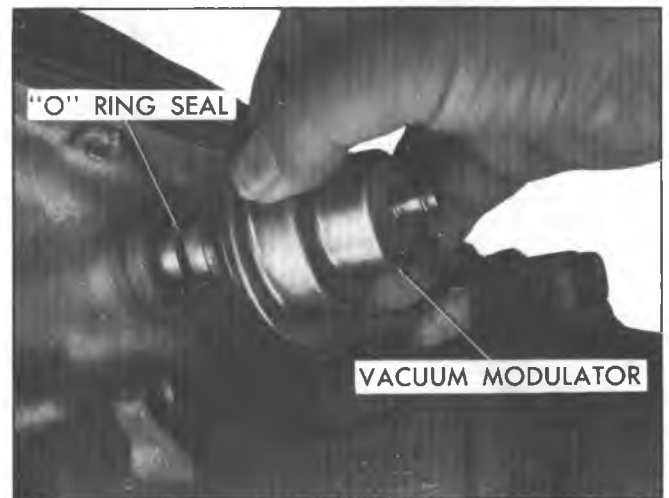

Fig. 1A—Removing Vacuum modulator Assembly
4. Remove vacuum modulator assembly, "O" ring seal, and modulator valve from case (fig. 1A). Discard "O" ring.